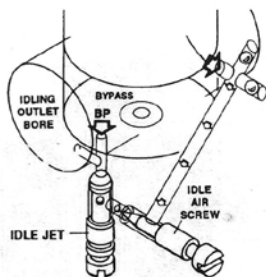

FIGURE 8
**IDLE SYSTEM: Slide Carburettor—**With the air slide nearly closed, vacuum at the main fuel outlet is insufficient to draw fuel up from the main metering tube. Fuel and air to supplement the small volume of air getting under the slide for idling is then supplied through the auxiliary idle system (Figure 8) which consists of IDLE JET (LD), IDLE AIR SCREW (LRS), OUTLET BORE (LA) and BYPASS(BP).